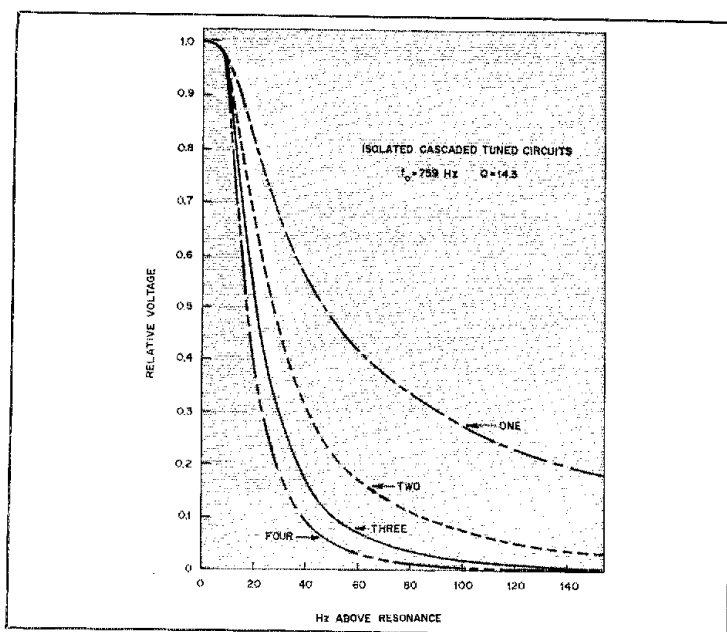
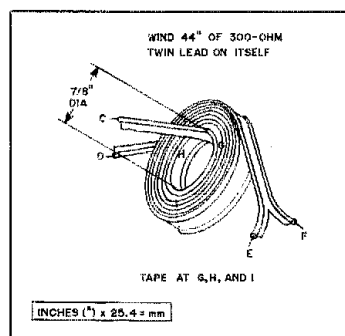

Fig. 3 — Frequency response of cascaded resonant circuits. The sharpness becomes greater as the number of circuits is increased from one to four.
Fig. 2 — Loading coil for 3500-3750 kHz operation. Points E and F on the coil are connected to the coaxial cable. Points C and D are connected to the twin lead.
The filter (Fig. 2) consists of three telephone toroids tuned to the same frequency and top coupled by means of large-value resistors. This arrangement has a single sharp-resonance peak, a bandwidth as narrow as can be used with moderate-speed cw and good skirt selectivity. The circuit has been designed so that all three resonant circuits have the same Q; this was done to achieve the best possible skirt selectivity for a given bandwidth. The performance approximates that of a cascaded set of three isolated tuned circuits, each having a Q of 14.3, as shown in Fig. 3.¹ (The response is approximately symmetrical with respect to the resonant frequency.) It will be observed that the skirt selectivity improves as the number of tuned circuits increases.
Fig. 2 — Schematic diagram of the narrow band-pass filter. C is rated at 1 μ F at 400 V and may be paper or film. J1 and J2 are single-circuit, nonshorting phone jacks. Each toroid (L) is 44 mH. The resistors are 1/2 watt, carbon composition. S1 is a dpdt toggle switch.
The additional loading imposed by the signal circuit would lower the Q further, making the bandwidth still greater. To prevent this, we connect the phones to the center tap, so that they reflect 8 k Ω across the coil. This shunt will reduce Q_0 by less than half, which is far more reasonable. The output impedance now looks like a resistance on the order of 3828 ohms. The coupling resistor should be of a large value compared to 3828 ohms to prevent excessive reduction of the Q and to provide the isolation between resonators required to obtain selectivity. On the other hand, too much resistance will make the attenuation excessive. We arbitrarily assign the value 10 k Ω . Recall that all resonators are to have the same Q . Referring to Fig. 2, to simplify matters, we make the center section symmetrical by using two 10-k Ω coupling resistors. Now, whatever shunting is done on the center coil for Q adjustment will result in equal loading effects on the other two coils. If all Q values are to be the same, we must start by making the loading the same on the input and output coils. This means the input coil must see 8 k Ω looking back at the source; since the source impedance is 5 k Ω , we use the 3-k Ω series resistor to satisfy this requirement. The procedure to find the shunt for the center coil is too lengthy to present here. It turns out to be
about 19 k Ω and is provided by the parallel resistors. The Q factor mandated by the calculation is 14.3. Fig. 3 shows that the 6-dB (or 0.5 relative voltage) bandwidth is 40 Hz.
A word on low gain: If the receiver gain is low (or the phones are insensitive), the three-coil filter may have too much loss. The best solution is to correct the receiver deficiency, resorting to additional amplifiers if necessary. An easier solution is to eliminate the center coil, then top couple the input coil to the output coil through a 10-k Ω resistor. This will result in degraded skirt selectivity, as shown in Fig. 3. However, the writer has used several filters of this type, and the performance was still good. The filter-out attenuator will need to be changed so the level does not shift greatly when the switch is thrown. A good start would be to replace the 220-ohm resistor in Fig. 2 with an 820-ohm resistor. □♦♦
However, 80-meter operation is a problem. I have not been able to obtain full output power with these transmitters on frequencies below 3.750 MHz. The SWR measures between 5:1 and 8:1 for the lower part of the band. I constructed a loading coil to go between the choke and the twin lead (Fig. 2). The coil consists of 44 inches of twin lead wound on a 7/8-inch diameter form (my left thumb). Once the coil was wound, I removed it from my thumb and used electrical tape to secure it. For 80-meter operation, attach ends C and D to the choke and ends E and F to the twin lead. Remove the coil for operation on the other bands. Banana plugs and sockets can be used to facilitate the insertion and removal of the coil.
The auto-start circuit of Fig. 2 consists of a modified 555 timer circuit employing U1, with the timer output driving a relay-driver transistor, Q2. The relay contacts control the application of 117 V ac to the RTTY printer motor. (An extra set of contacts could be used to open the loop supply to minimize power dissipation when the system is awaiting a valid signal.)